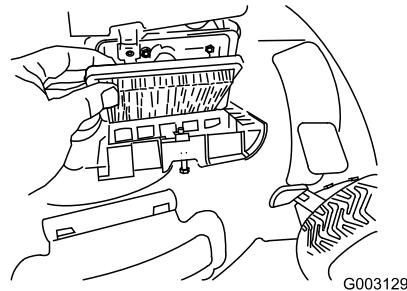

Figure 33
- Replace the air filter (Figure 33).